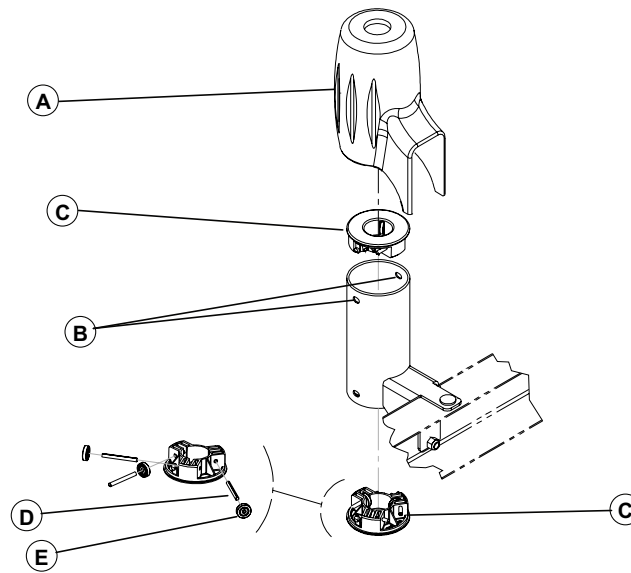

Figure 30 – Rolling bearing replacement
4. Alternately lift each side of the rail support cover (A) to lift it off the rail support (Figure 30).
6. Using a slotted screwdriver, press and lift the two locking tabs through the holes (B) on either side of the rail support to disengage the rolling bearing support (C) (Figure 30).
7. Using needle nose pliers, remove the spring pin (D) that secures the rolling bearing (E) (Figure 30). Remove and discard the rolling bearing. Save the spring.
8. Using a 1/8" punch as a guide, insert the spring pin (D) and the new rolling bearing (E) into the support holes (Figure 30). Center the spring pin so the rolling bearing assembly will fit into the rail support.